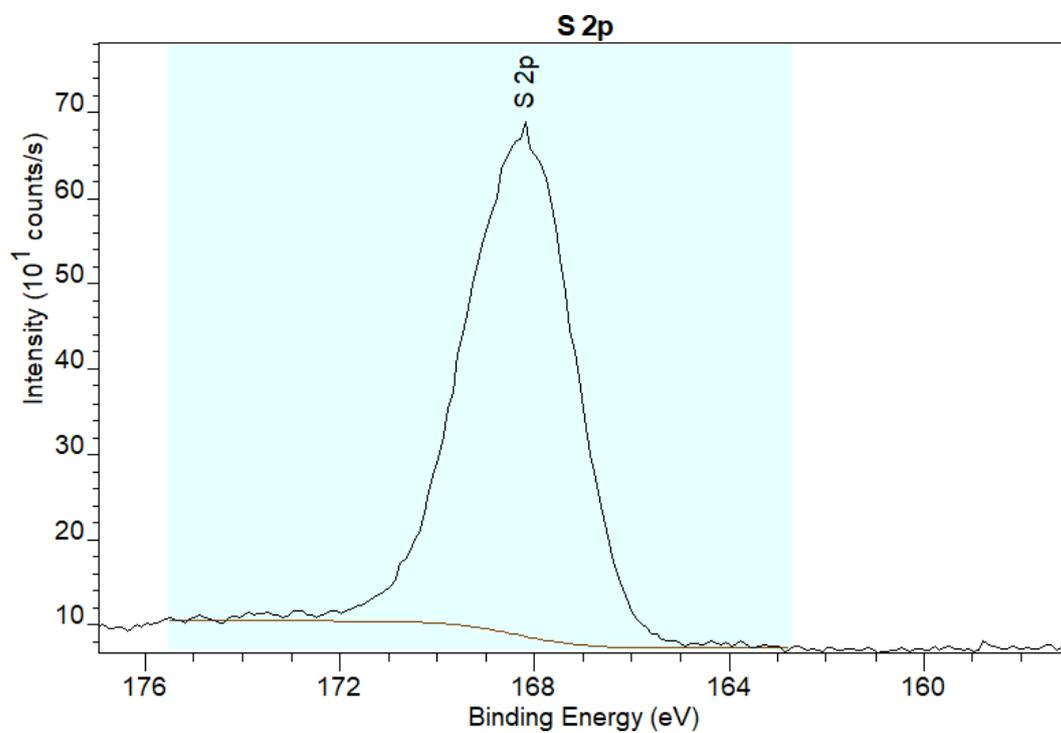

Figure 1:  $S_{2p}$  peak from XPS analysis for  $SO_3H / AC$  catalyst without heat-treatment
S4. Conversion of cellobiose, selectivity and yield in sorbitol corresponding to the kinetic curves in main text in Figure 1
**S4. Conversion of cellobiose, selectivity and yield in sorbitol corresponding to the kinetic curves in main text in Figure 1**